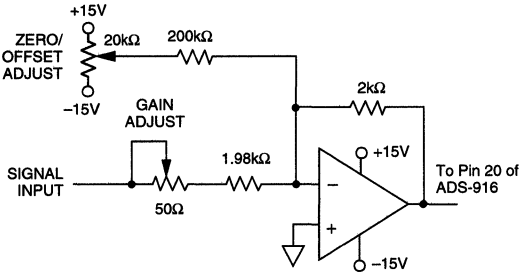

Figure 2. ADS-916 Calibration Circuit
Bypass all power supplies, as well as the REFERENCE OUTPUT (pin 21), to ground with 4.7µF tantalum capacitors in parallel with 0.1µF ceramic capacitors. Locate the bypass capacitors as close to the unit as possible. If the user-installed offset and gain adjusting circuit shown in Figure 2 is used, also locate it as close to the ADS-916 as possible.
- initial offset and gain errors can be reduced to zero using the input circuit of Figure 2. When using this circuit, or any similar offset and gain-calibration hardware, make adjustments following warmup. To avoid interaction, always adjust offset before gain.
**CALIBRATION PROCEDURE** (Refer to Figures 2 and 3)
Any offset and/or gain calibration procedures should not be implemented until devices are fully warmed up. To avoid interaction, offset must be adjusted before gain. The ranges of adjustment for the circuit in Figure 2 are guaranteed to compensate for the ADS-916's initial accuracy errors and may not be able to compensate for additional system errors.
All fixed resistors in Figure 2 should be metal-film types, and multturn potentiometers should have TCR's of 100ppm/°C or less to minimize drift with temperature.